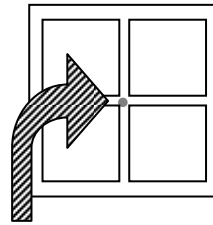

Figure 2
- The beam diameter must be bigger than the gap between the segments, such that when the beam is positioned in the center of the quad photodiode, it will still illuminate part of the active area. See Figure 2.